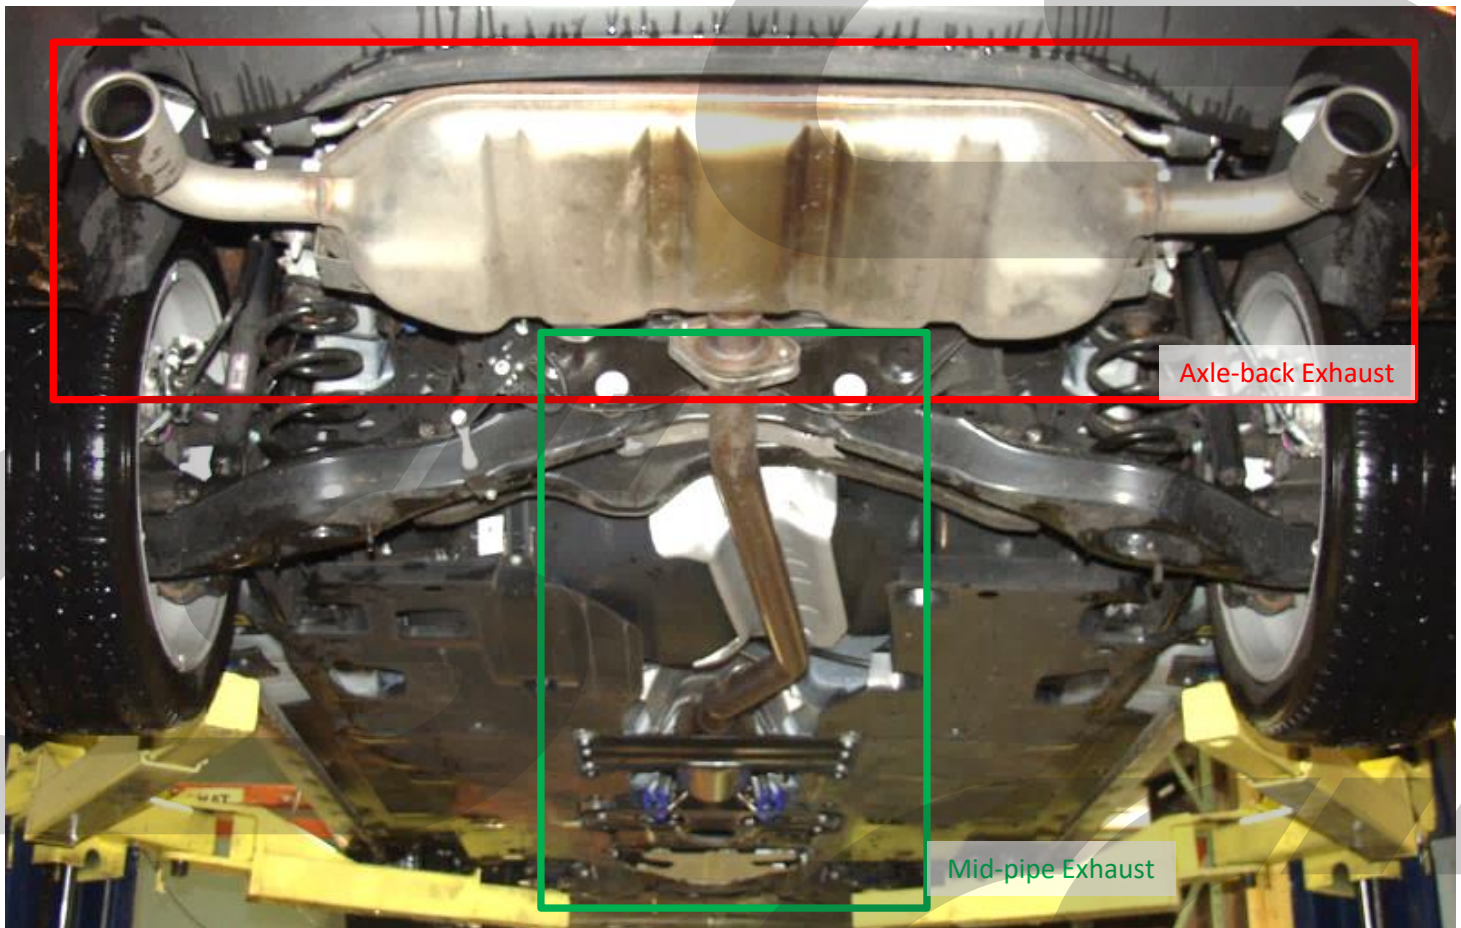

Figure 1a
- a) Use a floor jack and jackstands to gain access to the underside of the vehicle. You will need to access both the mid-pipe exhaust section and axle-back exhaust section. Shown in **Figure 1a**.